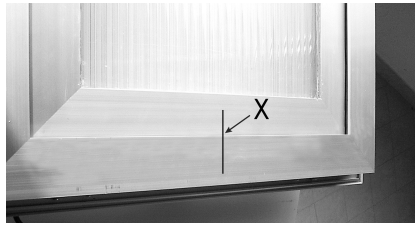

Figure 2
- A. Trace centrepoint X in pencil onto the window frame (Fig.2).